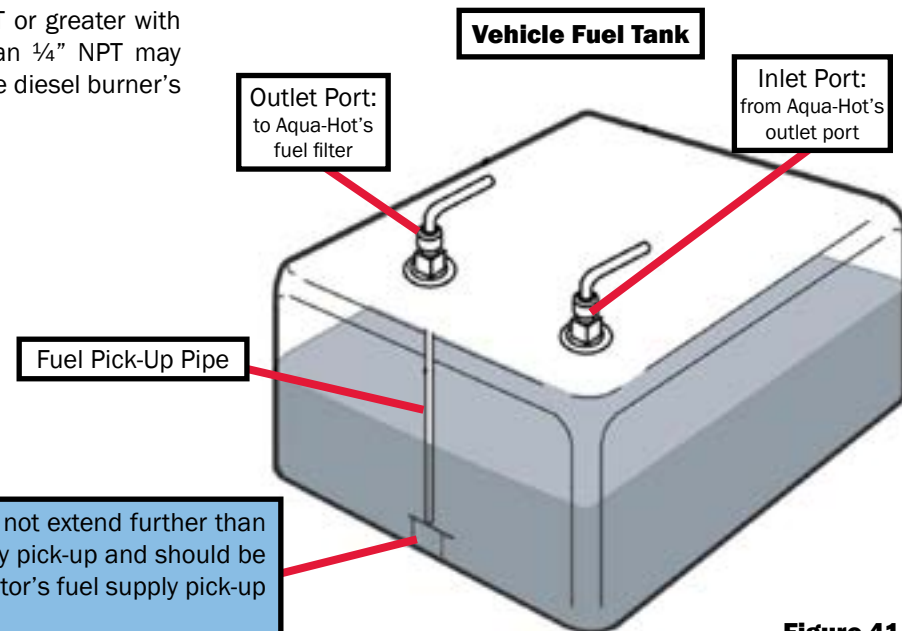

Figure 41
- The fuel tank should be equipped with a dedicated fuel pick-up pipe (outlet and inlet port). Reference Figure 41.